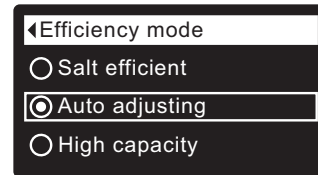

FIG. 83
8a. Efficiency mode: If the desired efficiency mode already has a dot next to it (See Figure 83), go to Step 9. Otherwise, press the DOWN (▼) or UP (▲) buttons to scroll to the desired efficiency mode, then press SELECT (O) to choose it.